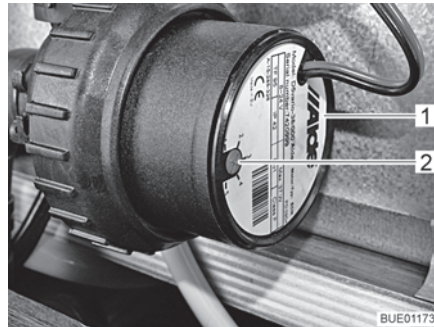

Fig. 138 Speed reduction
The rotational speed of the circulating pump can be set with the control knob (Fig. 138,2). At a lower rotary speed, the operating sounds of the pump are quieter.
The control knob is located on the circulating pump (Fig. 138,1).
- Turn the control knob (Fig. 138,2) in an anticlockwise direction. The output is reduced.